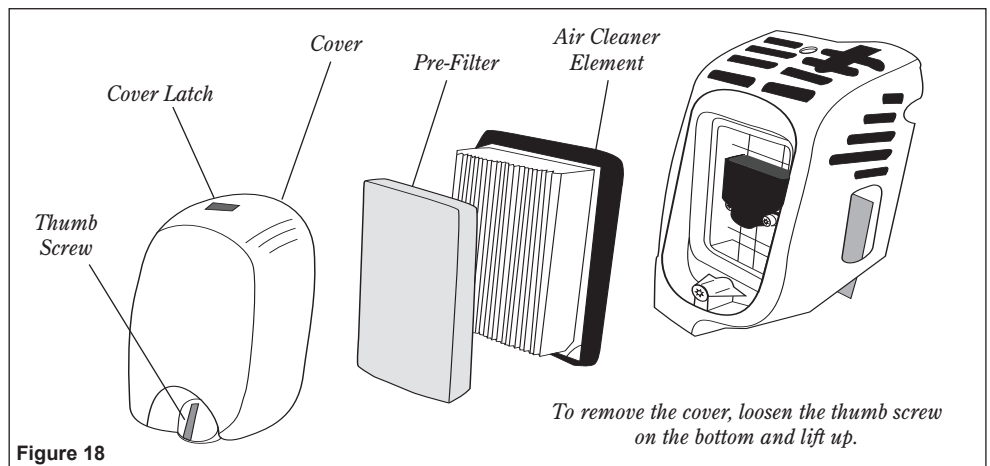

Figure 18
1. Remove the air cleaner cover by loosening the thumb screw and lifting up. See Figure 18.